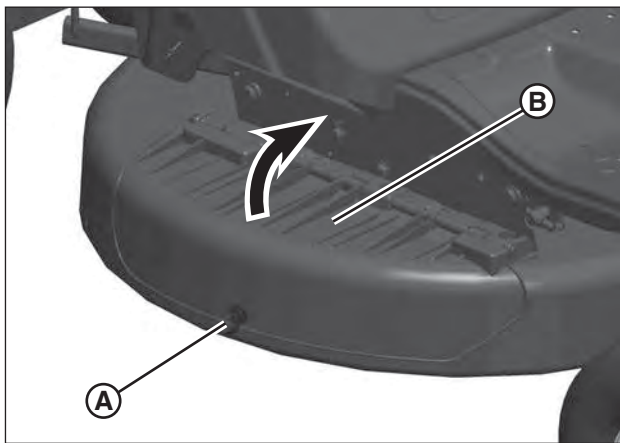

Figure 19: Raising the mulching cover
1. Remove the wing nut and washer (A, Figure 19) securing the bottom edge of the mulching cover (B) to the mower deck.